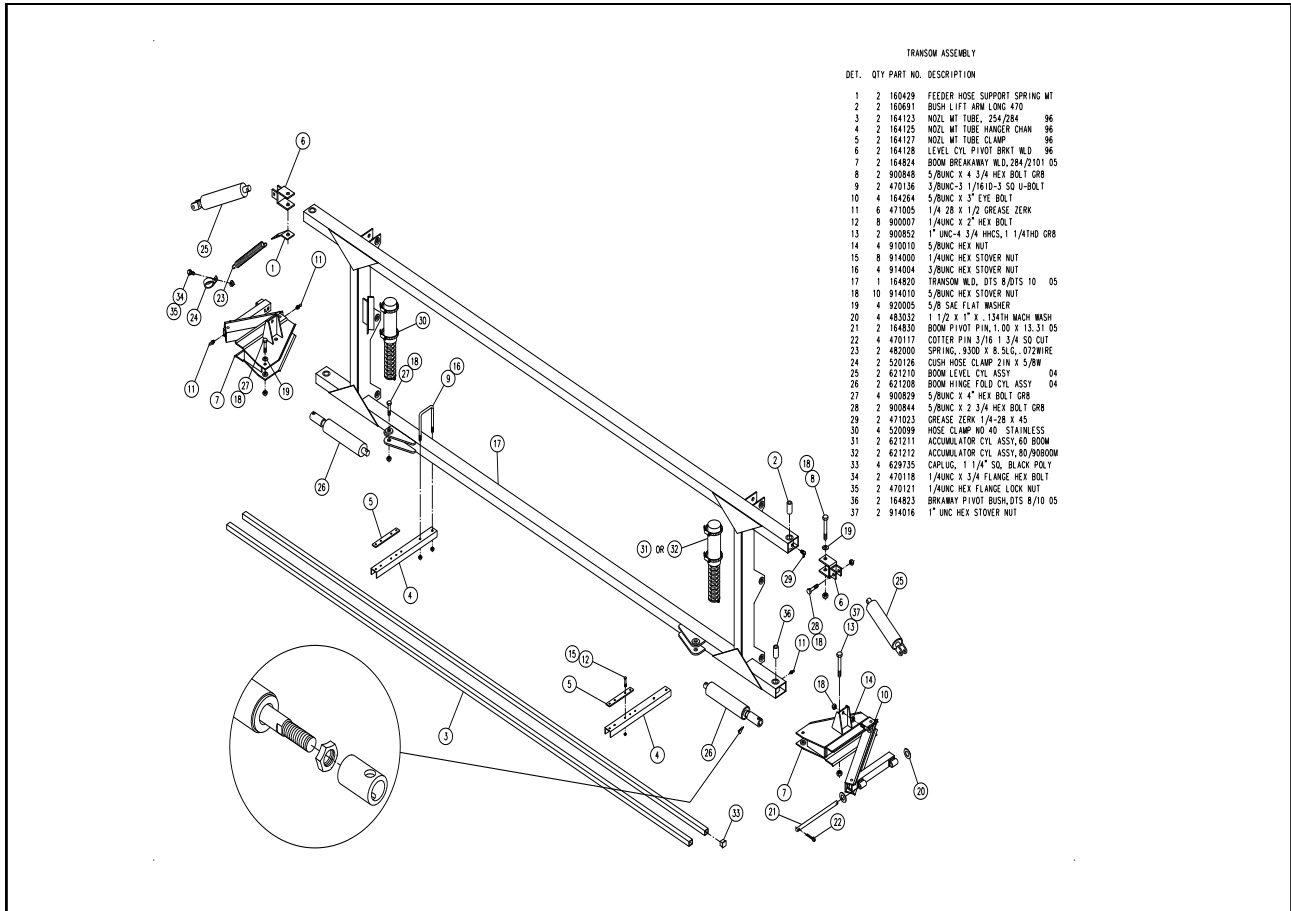

FIG 4.6
1. Install the transom weldment (fig. 4.6, item 17).
- 4. After the outer booms have been installed, adjust the fold cylinder sleeve (page 25, fig. 4.6, item A) until the booms are parallel with the transom. Then use this same adjustment to allow the boom to fold in far enough to locate in the boom cradle. Lock the cylinder sleeve in place with the jam nut (page 25, fig. 4.6, item B).